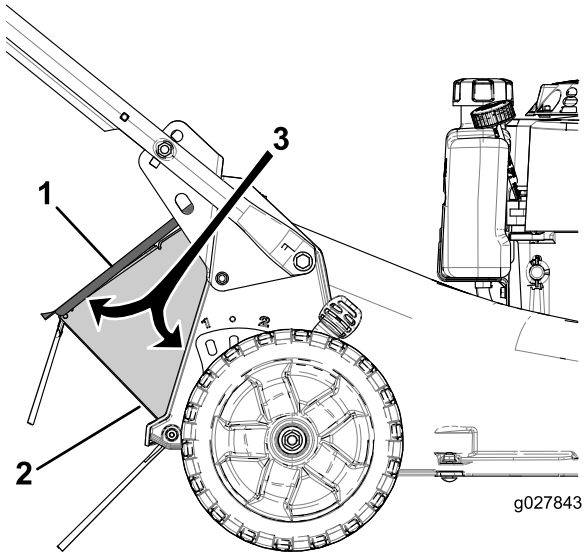

Figure 3
5. Inspect the installation to ensure that the rear deflector is properly installed as shown in Figure 3.